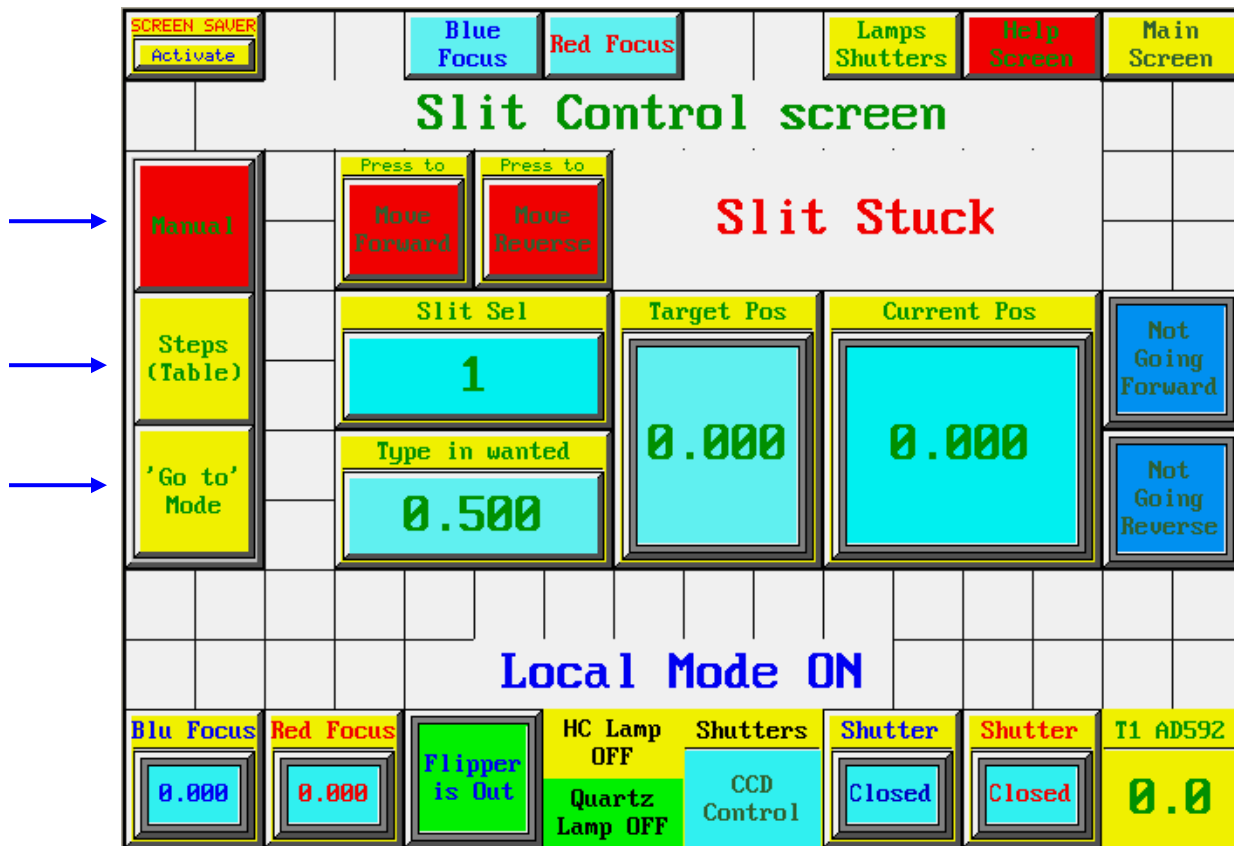

Figure 2. Slit control screen.
- Manual mode (default):** Allows you to move the mechanism by pressing the pushbuttons to the right, labeled 'Press to Move Forward' and 'Press to Move Reverse', only one at a time. The two squares on the right end column show the current status of the PLC outputs to the motor of the mechanism (showing no movement in figure 2 below). Current position value of the Slit plate is showed in the 'Current Pos' display. The movement range is limited by software limits (0.450V and 1.500V).
If the mechanism slows down and takes more time than expected to reach a commanded position, a timeout is triggered. This prevents the motor of the mechanism from keep moving and makes the 'Slit Stuck' message to blink. You can still try to move the plate by going into manual mode and using its related pushbuttons, or setting a different target position ('Steps' or 'Go to' modes), but the suggestion is to have the mechanism checked. In figure 2 (below), the Tri-State button is pointed out with blue arrows.